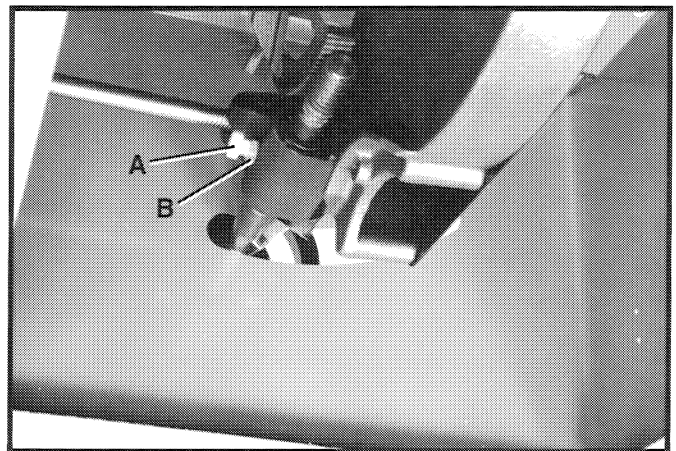

Fig. 66
2. Locate the nylon screw (A) Fig. 66, directly behind the front panel of the saw adjacent to the blade elevating handwheel on the carriage assembly.
3. Loosen locknut (B) Fig. 66, rotate nylon screw (A) as necessary to adjust resistance on the blade elevating shaft and fasten locknut (B) after adjustment is made.